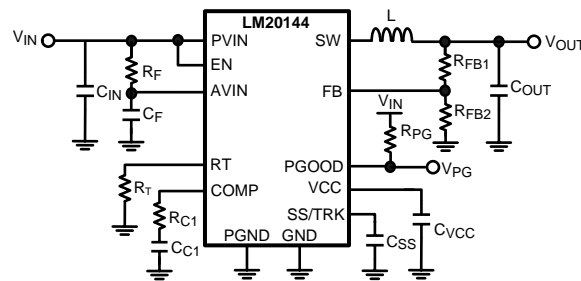

Figure 28. Typical Application Circuit
The LM20144 switching regulator features all of the functions necessary to implement an efficient low voltage buck regulator using a minimum number of external components. This easy to use regulator features two integrated switches and is capable of supplying up to 4A of continuous output current. The regulator utilizes peak current mode control with nonlinear slope compensation to optimize stability and transient response over the entire output voltage range. Peak current mode control also provides inherent line feed-forward, cycle-by-cycle current limiting and easy loop compensation. The switching frequency can be varied from 500 kHz to 1.5 MHz. The device can operate at high switching frequency allowing use of a small inductor while still achieving high efficiency. The precision internal voltage reference allows the output to be set as low as 0.8V. Fault protection features include: current limiting, thermal shutdown, over voltage protection, and shutdown capability. The device is available in the HTSSOP 16-pin package featuring an exposed pad to aid thermal dissipation. The LM20144 can be used in numerous applications to efficiently step-down from a 5V or 3.3V bus. The typical application circuit for the LM20144 is shown in Figure 28 in the design guide.
This section walks the designer through the steps necessary to select the external components to build a fully functional power supply. As with any DC-DC converter numerous trade-offs are possible to optimize the design for efficiency, size, or performance. These will be taken into account and highlighted throughout this discussion. To facilitate component selection discussions the circuit shown in Figure 28 below may be used as a reference. Unless otherwise indicated all formulas assume units of amps (A) for current, farads (F) for capacitance, henries (H) for inductance and volts (V) for voltages.
To prevent high frequency noise spikes from disturbing the sensitive analog circuitry connected to the AVIN and AGND pins, a high frequency RC filter is required between PVIN and AVIN. These components are shown in Figure 28, as C_F and R_F . The required value for R_F is 1Ω. C_F must be used. Recommended value of C_F is 1.0 μF. The filter capacitor, C_F should be placed as close to the IC as possible with a direct connection from AVIN to AGND. A good quality X5R or X7R ceramic capacitor should be used for C_F .